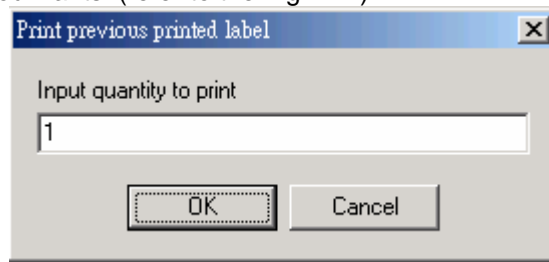

Fig.14.1
2. Input quantity to print you wants. (refer to the Fig.14.1)